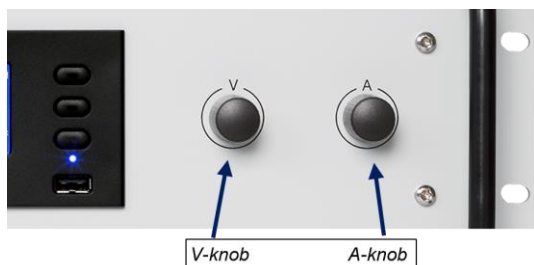

Figure 8.5: Encoders for voltage and current settings
- The encoders are also used for scrolling through the menu, see Figure 8.5.